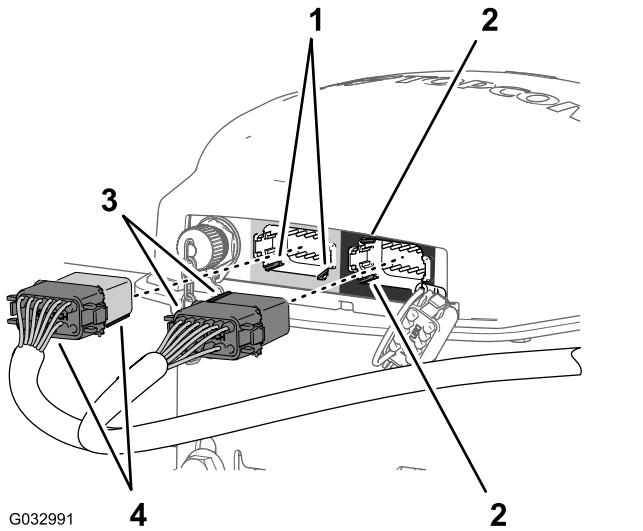

Figure 135
3. Align the 2 keys at the long face of the gray and black 12-socket connector of the data harness with the 2 key slots in the bottom, horizontal wall of the left (gray) 12-pin connector of the navigation receiver (Figure 135).
4. Connect the **gray and black** 12-socket connector of the data harness into the **left (gray)** 12-pin connector of the navigation receiver until the connector locks snap together securely (Figure 135).
5. Align the 2 keys at the short side of the **black** 12-socket connector of the data harness with the 2 key slots in the left, vertical wall of the **right (black)** 12-pin connector of the navigation receiver (Figure 135).
6. Connect the **black only** 12-socket connector of the data harness into the **left (black)** 12-pin connector of the navigation receiver until the connector locks snap together securely (Figure 135).